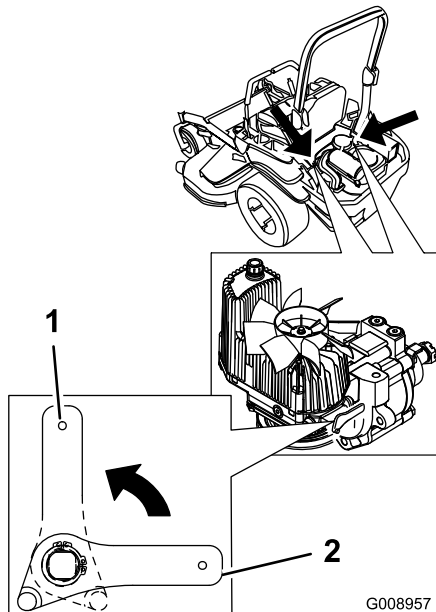

Figure 36
3. Rotate the release valve levers vertically to push the machine. This allows hydraulic oil to bypass the pump enabling the wheels to turn (Figure 36).
5. Rotate the release valve levers horizontally to run the machine (Figure 36).